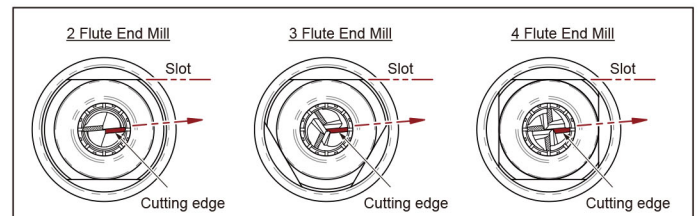

Fig. 3-3
3. Gently turn the chuck set counterclockwise and take it out, make sure the end mill's cutting edge is angled towards the slot of the clamping nut (Fig. 3-3).